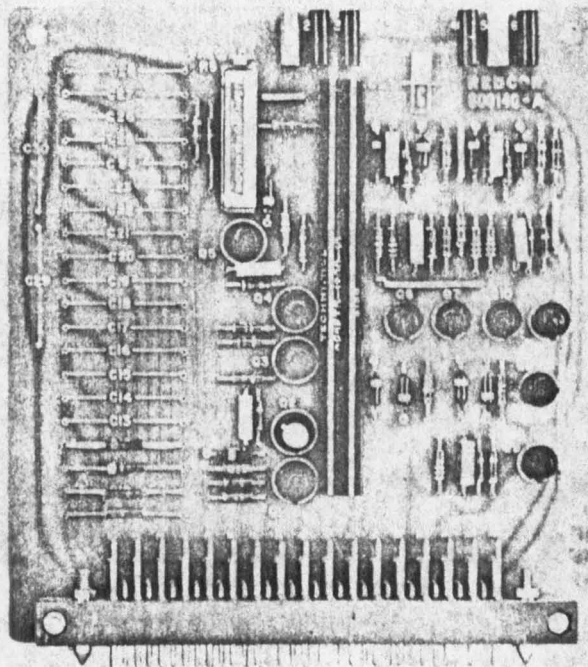

Figure 1. Clock Oscillator Model 600140
2. Description - The Model 600140 Clock Oscillator (see Figure 1) is a printed circuit board module consisting of an oscillator and clock generator. The circuit board is a standard 50-pin module card with components mounted on one side only. The board assembly measures 5 x 5.4 inches and requires a standard one card space. Test points are provided on the top edge of the card for wave form observation and trouble shooting during operation.